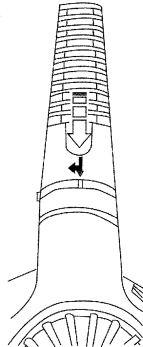
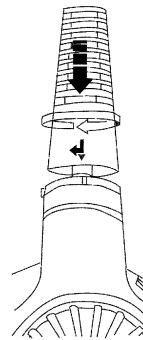

FIG. 1
FIG. 2
Proceed as indicated in Fig. 1 and Fig. 2 in order to assemble the extension (17) to all available accessories